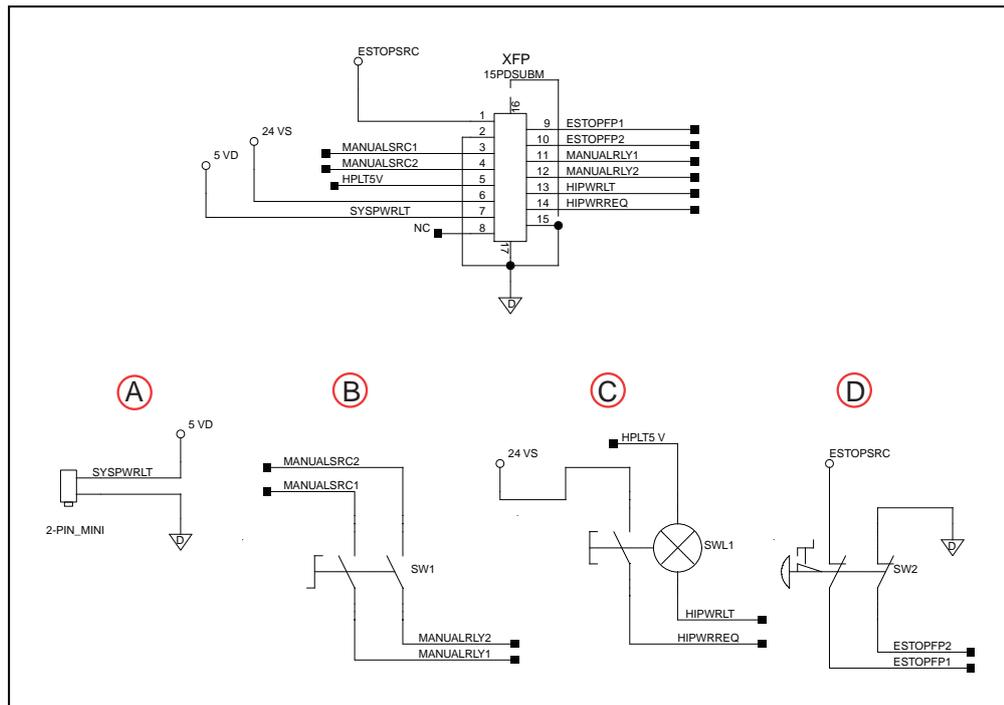

Figure 3-6. Front Panel Schematic showing the System Power LED (A), Manual/Auto Switch (B), High Power On/Off (C), and Emergency Stop (D) circuits
See Figure 3-6. for a schematic diagram of the Front Panel.
**NOTE:** Per ISO 13849 operation, a redundant, cyclically-checked, positive-drive safety relay circuit for Category 3 PL-d provides these voltage-free circuits (refer to Figure 3-7. and Figure 3-6. for the user E-Stop circuitry).